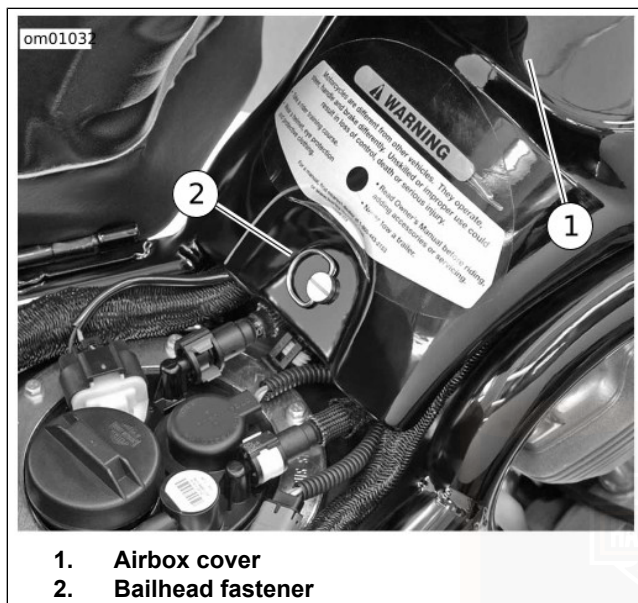

Figure 43. Airbox Cover: VRSC Models
3. See Figure 43. Remove the airbox cover by turning the bailhead fastener 1/4 turn counterclockwise. Pull the airbox cover away from the front locating holes.
12. See Figure 43. Position the airbox cover with the locating pins in the holes on the frame tabs.